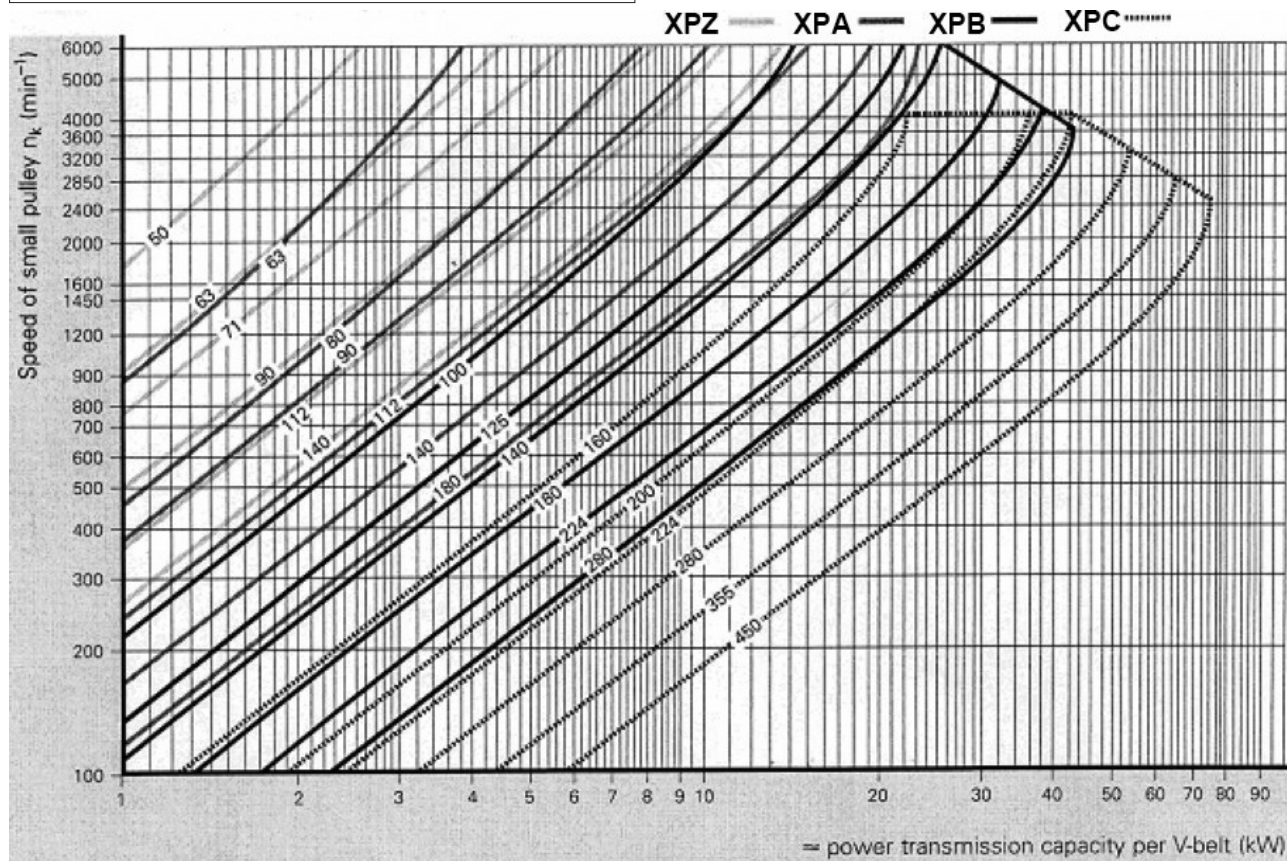
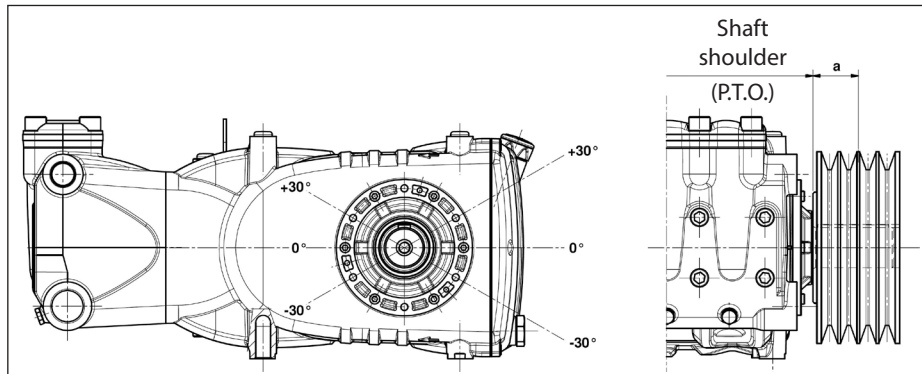

Fig. 7
Fig. 10
For this pump model, we recommend to use No. 4 XPB belts (16.5x13 serrated). Use an XPC profile only for long durations. Both the characteristics and transmissible power of each belt can be verified in the diagram in Fig. 7, in relation to the number of rpm normally declared by the manufacturer. Minimum duct pulley diameter (on pump shaft): ≥ 250 mm. The radial load on the shaft must not exceed 7500 N (value necessary for Layout definition). The transmission is considered adequate if the load is applied to a maximum distance $a=40$ mm from the shaft shoulder (P.T.O.) as shown in Fig. 10.
- b) Use high performance belts – for example **XPB** instead of **SPB** – as a lower quantity of belts for the same transmitted power may be necessary and a consequent shorter resulting distance compared to the shaft shoulder (P.T.O.) “a” of Fig. 10.